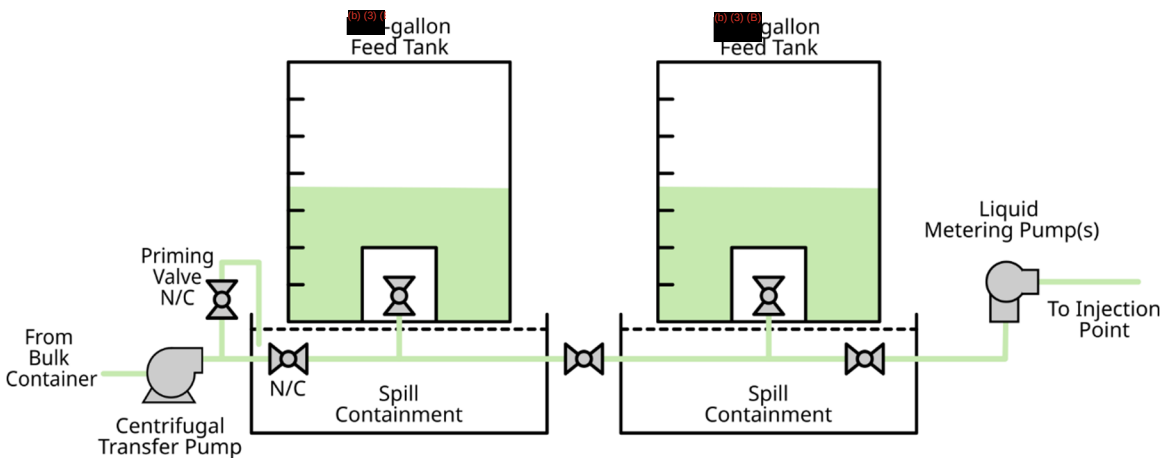

Figure 2-1 Chlorine Feed System Schematic¹
The chlorine feed system at the Waiawa shaft consists of two (b) (3), (b) (6) gallon feed tanks; the Aiea-Halawa shaft consists of a single feed tank. Both systems utilize 12.5% sodium and positive-displacement metering pumps to inject the chemical into the water supply pump discharge pipe. There are two metering pumps at the Waiawa Shaft and one at the Aiea-Halawa Shaft. The system at Waiawa Shaft is also equipped with a pump to replenish the feed tanks from bulk containers. *Figure 2-1* provides a schematic of the Waiawa chlorine feed system, indicating valve positions during operation (N/C = normally closed).